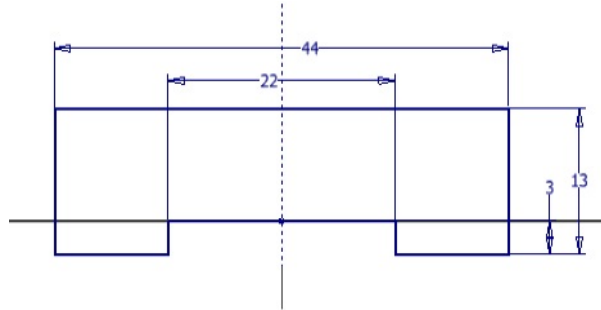

Figure 6-152 Sketch for the base feature
4. Next, create the sketch for the base feature on the YZ plane. Add the required constraints and dimensions to it. The sketch after adding constraints and dimensions is shown in Figure 6-152.